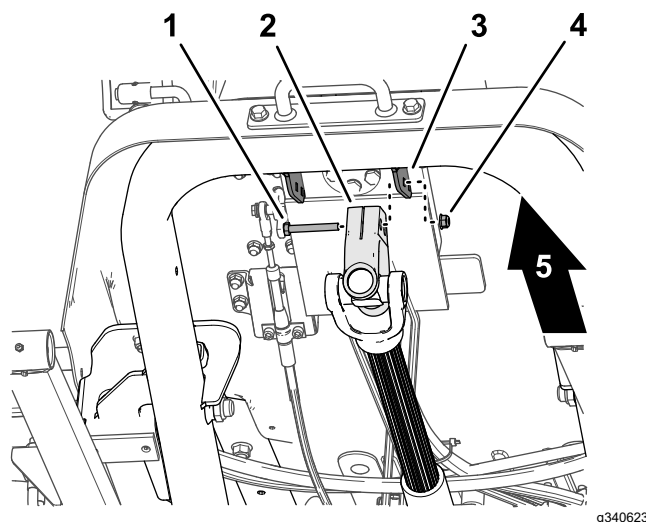

Figure 16
1. While supporting the driveshaft, remove the capscrew and locknut that secure the driveshaft yoke to the steering valve-mount bracket (Figure 16), and carefully lower the driveshaft.